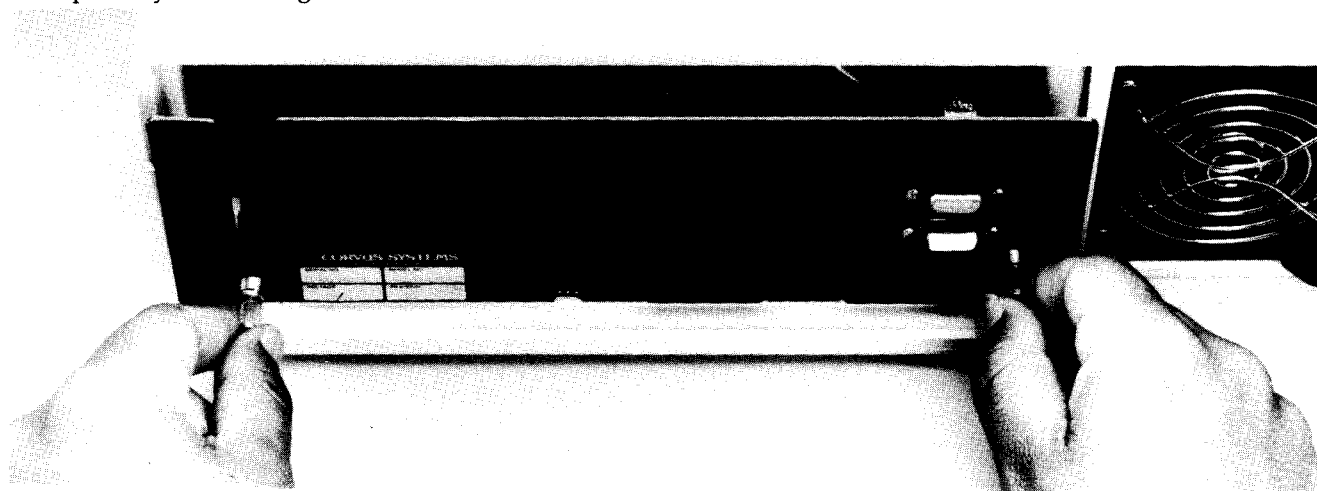

Figure 9. Latch Screws
3. There are two latch screws on the back of the tray. Loosen these screws by turning the left one, as you face the back, clockwise. The latch screw on the right should be turned counterclockwise. The tray may now be pulled partially out. See Figure 9 for latch screws and cable locations.